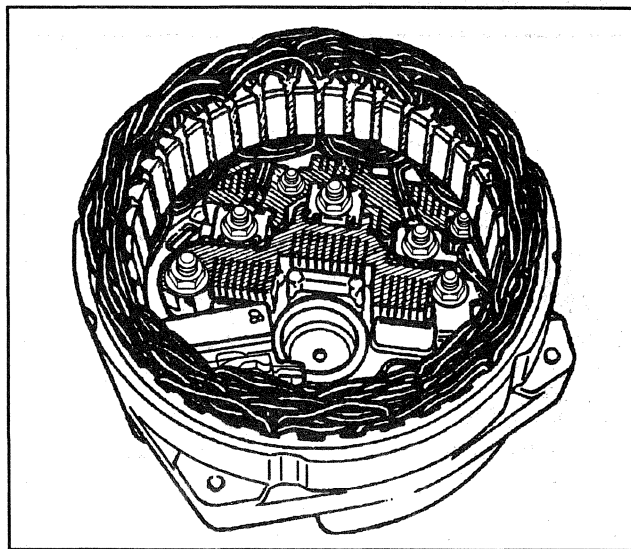

Figure 14—Stator Installed in the Slip Ring End Frame
11. Stator into the end frame, aligning the three stator leads to the three rectifier bridge terminals (Figure 14).